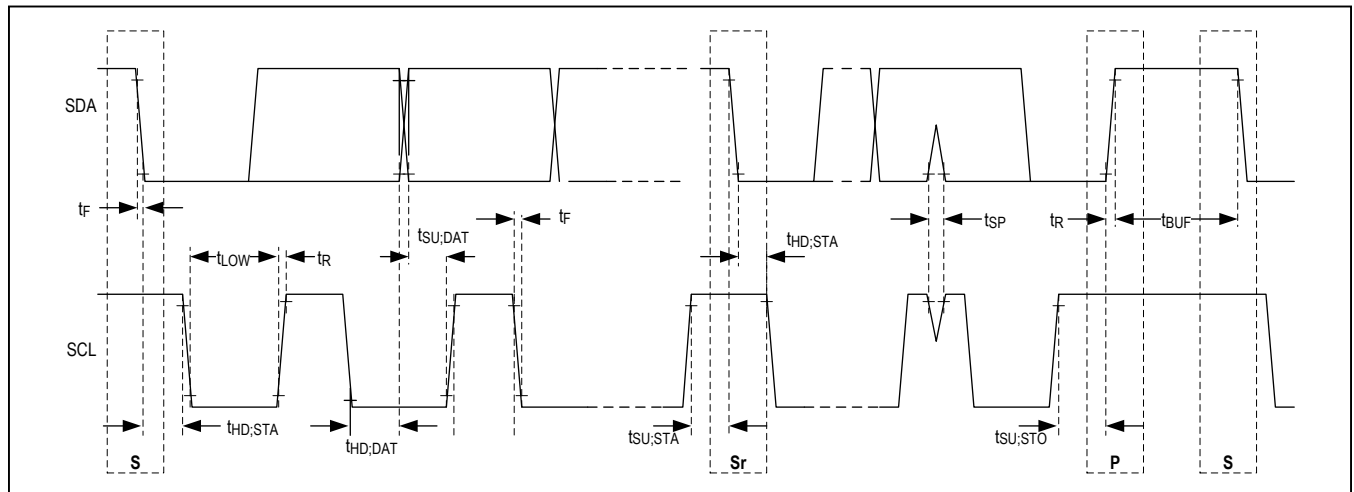

Figure 2. Timing Diagram
- Note 6:** See Figure 2 for timing diagram. All timing is referenced to $0.9 \times V_{DD}$ and $0.1 \times V_{DD}$.